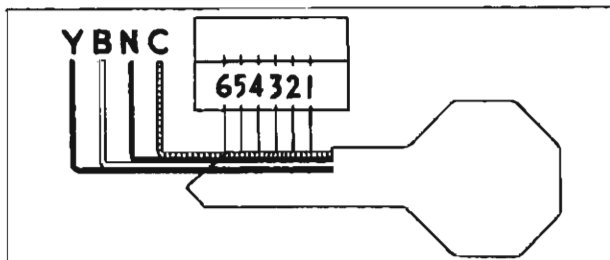

Fig. 11—Tumbler Requirement Diagram
In cases where a code book is not available, the diagram as shown in figure 11 may be used to deter-
1. Lay the key on the diagram (fig. 11) with the bottom of the key flush with the edge of the drawing, head and point carefully lined up.